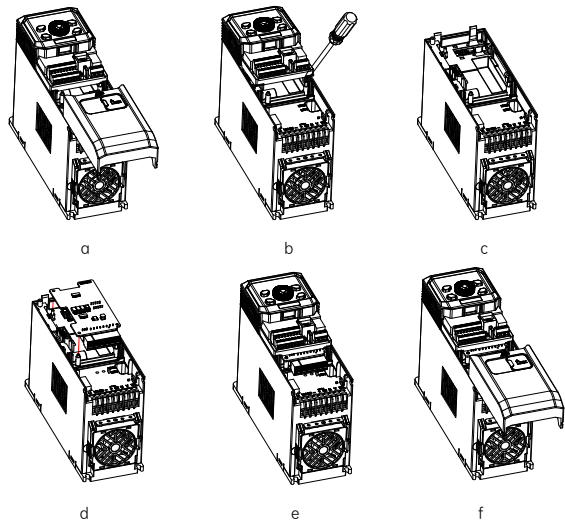

Fig. 3 Position 1 - PG card installation steps
- (1) When the drive is powered off, press the granulated part on the middle-upper of the lower cover, slide it down firmly to take down the cover, as shown in Fig. 3-a.
- (2) Use a straight screwdriver to pry open the two snap-fit joints between the control box and the drive, and then remove the control box upwards, as shown in Fig. 3-b and c.
- (3) Install the PG card: hold the PG card with its terminal block downwards, then align the three round holes on the PG card with the location column, and press down to buckle the PG card firmly into the four snap-fit joints, as shown in Fig. 3-d.
- (4) After the PG card is installed, align the control box with the snap-fit joints, and press down the control box to make its lower part firmly buckled, then slide the lower cover to lock it on the drive, as shown in Fig. 3-e and f.